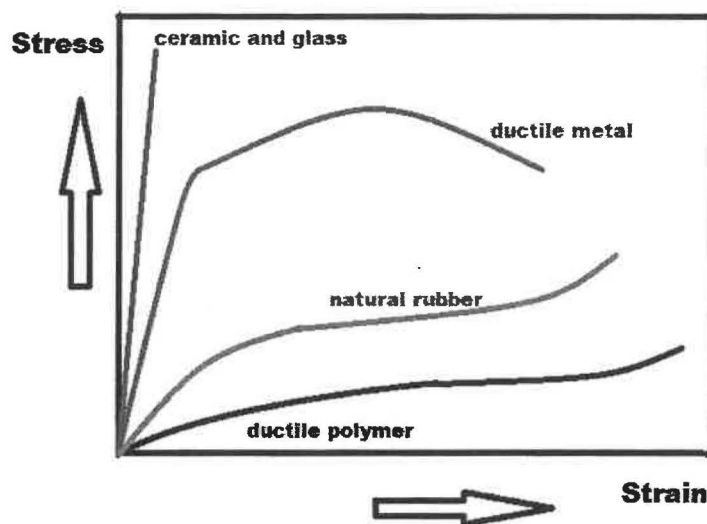

Figure 2: Stress–strain curves of four different samples.
- (a) Figure 2 shows stress–strain curves for four different engineering materials. Analyze how the dominant deformation mechanisms in each material influence its elastic modulus and overall mechanical behavior. Explain why materials with ionic bonds often exhibit higher stiffness than those with metallic bonds.